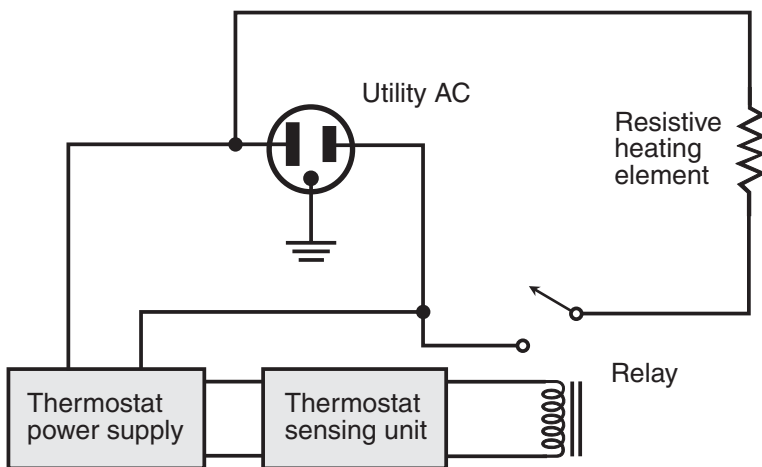

Figure 3-1 Functional diagram of a thermostat-controlled electric resistance heating system designed for use in a single room.
Figure 3-1 is a functional diagram of an electric resistance heating unit. The alternating-current (AC) utility electricity provides the power. The *heating element* is the heart of the system, usually consisting of a large coil or set of coils made of resistive wire. This wire is capable of withstanding high temperatures without melting or breaking.
In Figure 3-1, a *thermostat* and its power supply are shown, along with an electromechanical *relay*. The thermostat contains a *bi-metal strip* that flexes as the temperature rises and falls. This opens and closes a set of contacts that supplies current to the relay if the temperature falls below a certain point. When the relay receives current, its contacts close, and current flows through the heating element. When the temperature rises above a certain point, the bi-metal strip flexes back, its contacts open, the current to the relay is cut off, and the relay contacts break the circuit so the resistive element no longer receives any electricity.